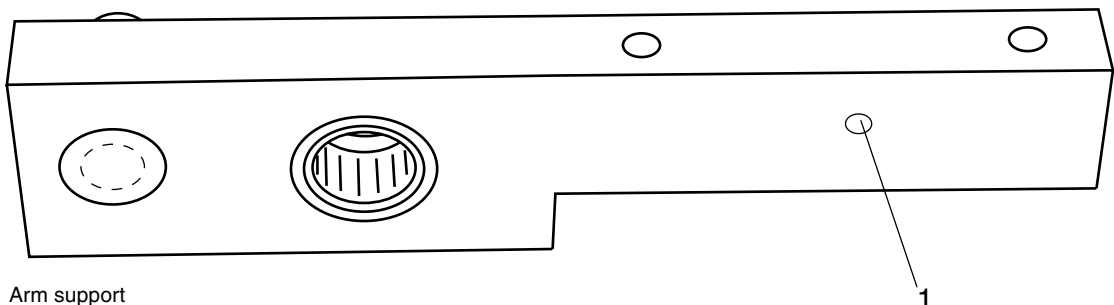

Fig. 36 Arm support
3. Remove the right arm support (the arm support with a hole for the friction lining (pos. 1 / Fig. 36) from the new lower arm link.